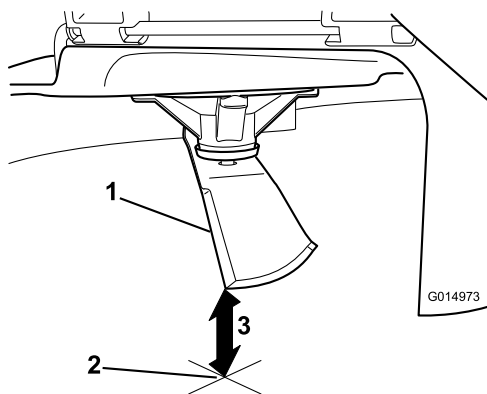

**Figure 45**
4. Rotate the same blade 180 degrees so that the opposing cutting edge is now in the same position (Figure 45).